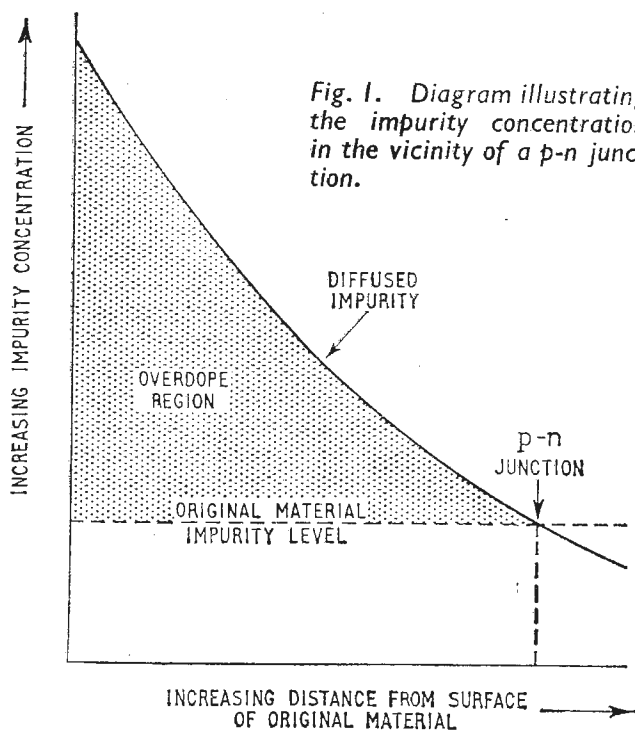

Fig. 1. Diagram illustrating the impurity concentration in the vicinity of a p-n junction.
IN a letter published in the January 1963 issue of *Wireless World*, Mr. S. C. Dutta Roy is of opinion that with a distributed RC network it is not possible to compensate the barrier capacitance of the collector junction (circuit repeated in Fig. 1) because the effect of the shunt arm in the equivalent  $\pi$  circuit of the distributed RC network had not been considered. A demonstration is given in his letter that between the points A and B the distributed RC network is never inductive.
With respect to the demonstration of Mr. Dutta Roy that between the points A and B of Fig. 1 the distributed RC network is never inductive, this is true in the conditions demonstrated in his letter of January 1963, but one of these conditions (the B end of the network is considered short-circuited) does not apply to the device of Fig. 1 as may be seen from the equivalent scheme of Fig. 3. Also from Fig. 2 it may be seen that if the arm BE is short-circuited then the capacitance presented between the points A and B will be  $\frac{C}{2} - \frac{C}{6} > 0$ , therefore always positive. But this is not the case for the device of Fig. 1. Rumania.
**S**ILICON, the second most common element of earth's crust (26% by weight), is used as the basic material for most integrated circuits because of its electrical properties and fabrication advantages. Silicon crystal can have either a predominance of p type (positively charged) carriers, or n type (negatively charged) carriers by the introduction of suitable impurities. Controlled amounts of impurity may be introduced into the melt when the ingot is grown, or later into the crystal by diffusion or alloying. The type of a region of crystal can be changed by "over-doping" with an opposite type impurity, and a p-n junction is formed where the two types of impurities are equal in concentration. This is illustrated in Fig. 1.